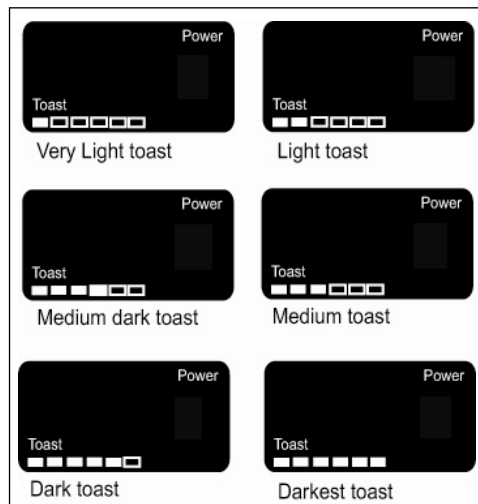

Fig. 11
4. Press the "Increase/Decrease" button to select the toast color. There are small squares that light up representing toast color – light to dark. The default setting is three (3) squares for medium toast color. Press the "Increase/Decrease" button to select the desired toast color. (Fig. 11)